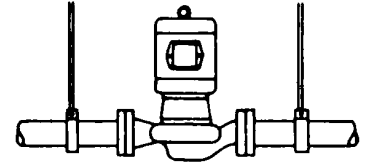

Fig. 2 Pipe Hanger Support
- (b) Supported from the ceiling by pipe hangers (Fig. 2)